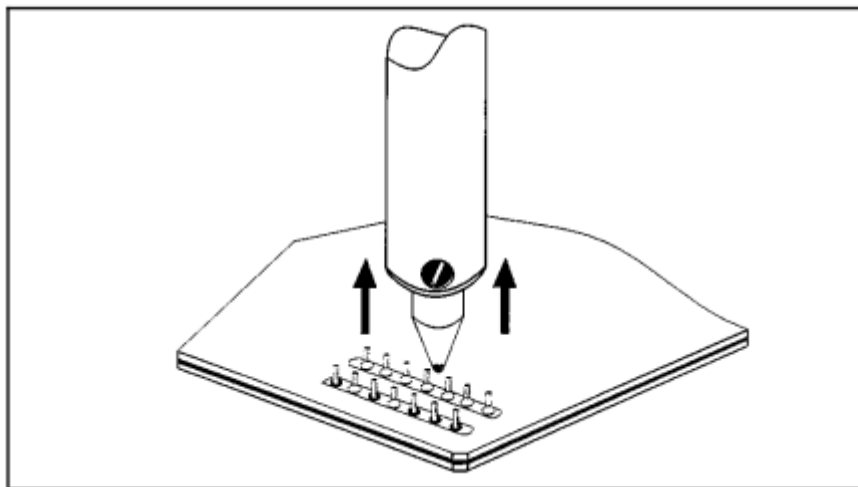

Figure 5 Lift Handpiece
- i) Lift tip from lead, hold vacuum for an additional 3 seconds to clear all molten solder from heater chamber. (See Figure 5.)